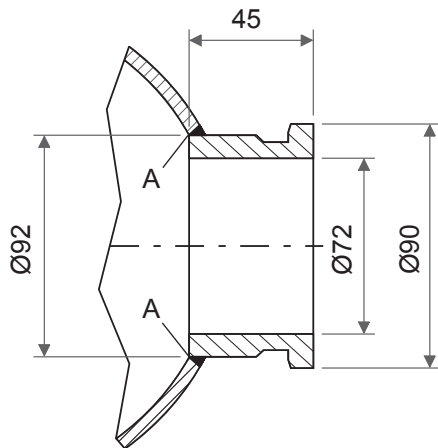

Figure 3-2a Installation drawing for process coupling, SAVE H SAH
3.2.1 Coupling for clamp mounting, Figure 3-2a
Make a 92 mm hole with V-bevelling on the process pipe. Place the coupling in the hole so that edges A are on a level with the pipe's inner surface (Note: the process coupling's straight edge needs not to be machined to curve shape). Weld the coupling as shown in Figure 3-2a.